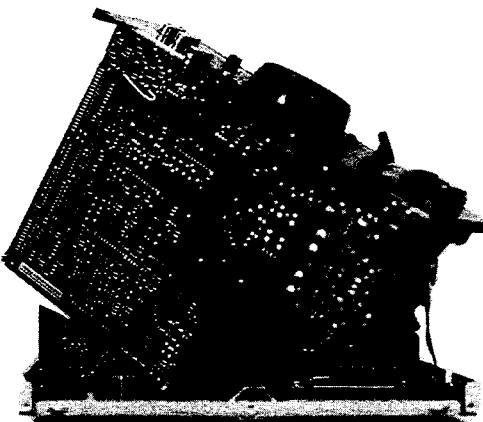

Fig. 3
4. Confirm the main P.C. board as shown in the Fig. 3.